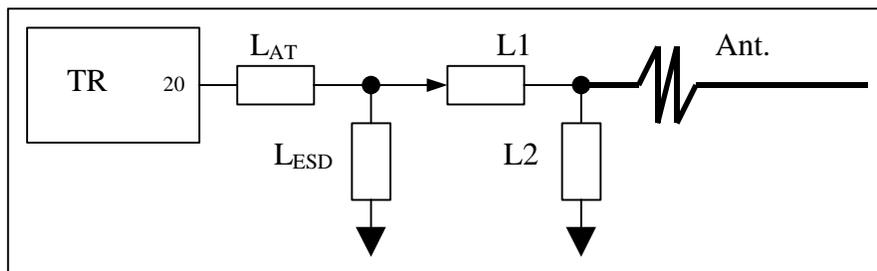

Fig. 9
b). For the TR3001 and TR3003: The L_{AT} and the L_{ESD} together matched the impedance of the TR to 50 ohms. The L_{ESD} is not only a ESD chock. In such case the connection with the antenna should follow the Fig. 9.